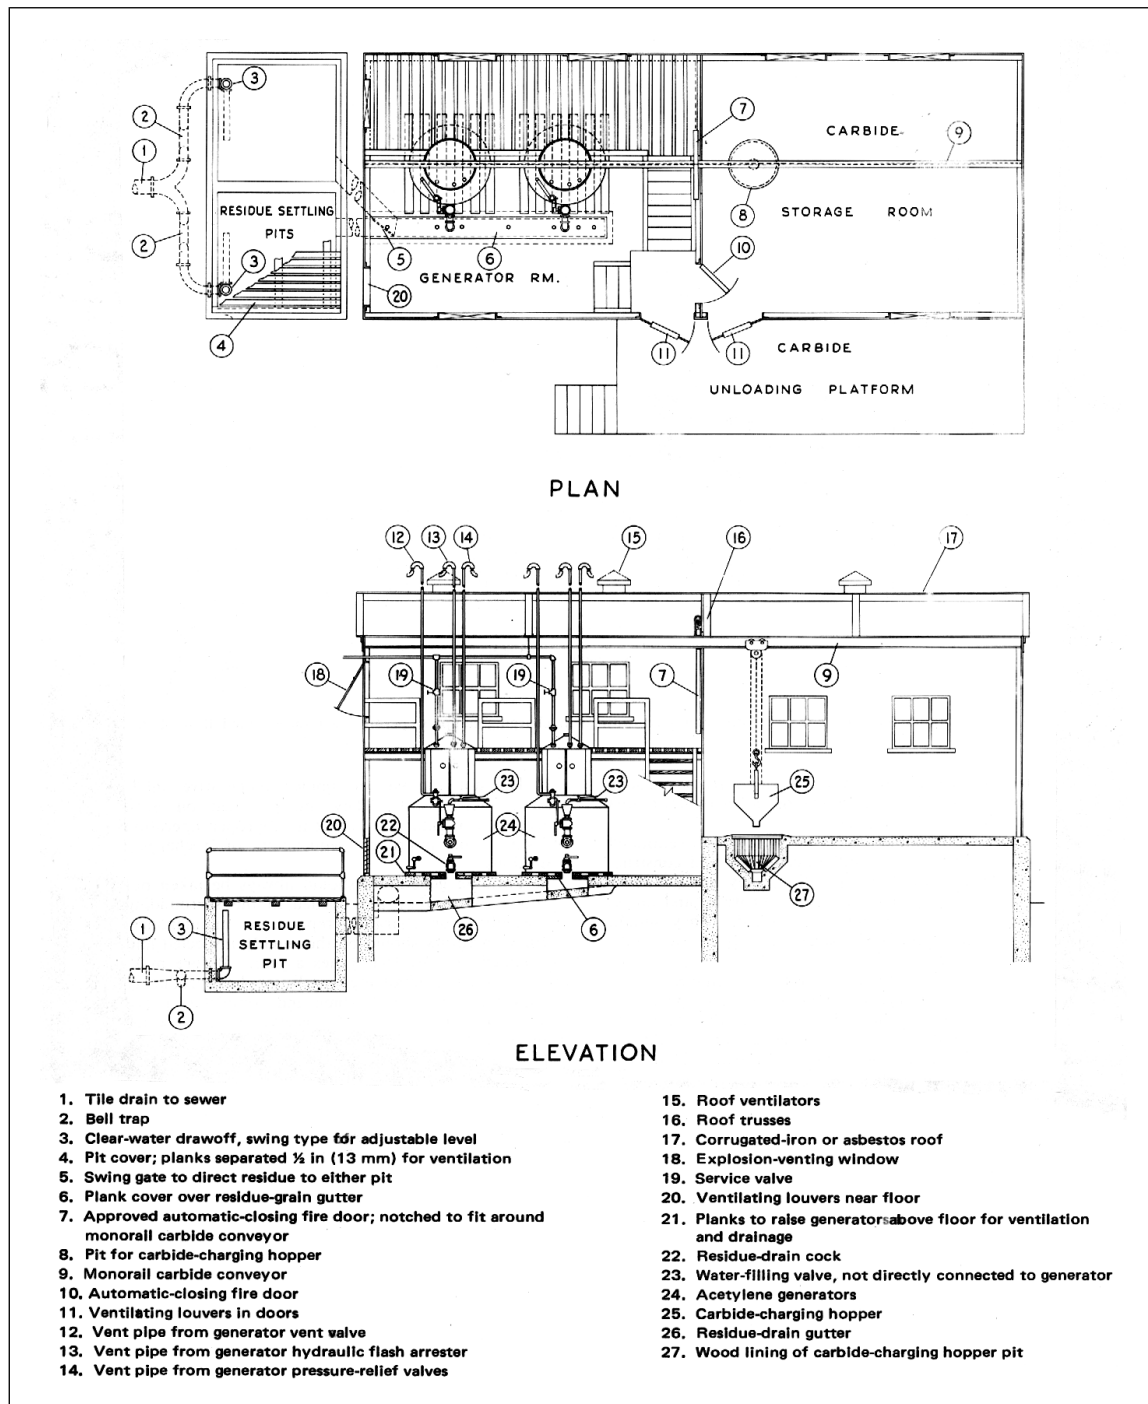

Fig. 1. Typical acetylene-generator house. Walls, roof, and interior partitions of corrugated iron or asbestos on steel frame.
2.1.1.1 Locate acetylene reactors, generators and purification equipment in open structures or in noncombustible buildings of damage-limiting construction (Fig. 1). Provide at least 1 ft2 of venting area for every 15 ft3 (1 m2/4.6 m3) of room volume. The venting area may be corrugated metal, corrugated asbestos, or lightweight insulated-metal panels arranged to release when subjected to 20 lb/ft2 (0.96 kPa) internal pressure, or FM Approved (see Appendix A for definition) explosion-venting windows.
Do not discharge residue (calcium hydroxide) from generators into sewer pipes, as it contains some dissolved acetylene and usually small quantities of unspent carbide. Provide a settling pit entirely outside the generator house (Fig. 1) for the residue from stationary generators so that any waste acetylene generated from unspent carbide or given up by the water will escape outdoors through the spaces in the plank cover. Residue from portable generators should be disposed of in an outdoor area free from ignition sources.